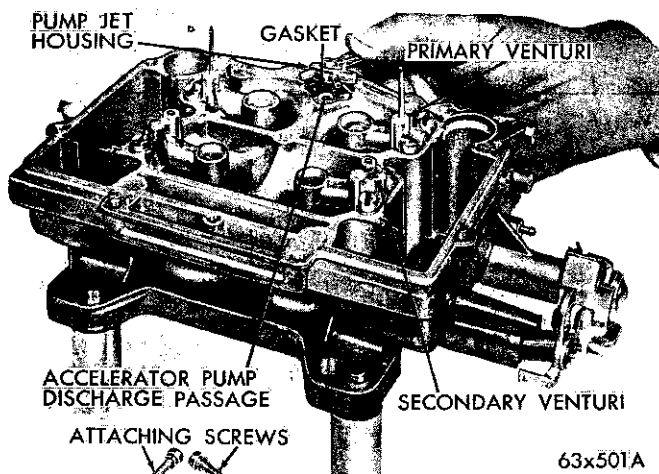

Fig. 3—Removing Accelerator Pump Jet Housing
(1) Remove the screws that attach the accelerator pump jet housing to the main body. Lift out the jet housing and gasket, as shown in Figure 3. Discard the gasket. Invert the main body and drop out the discharge check needle from the discharge passage.